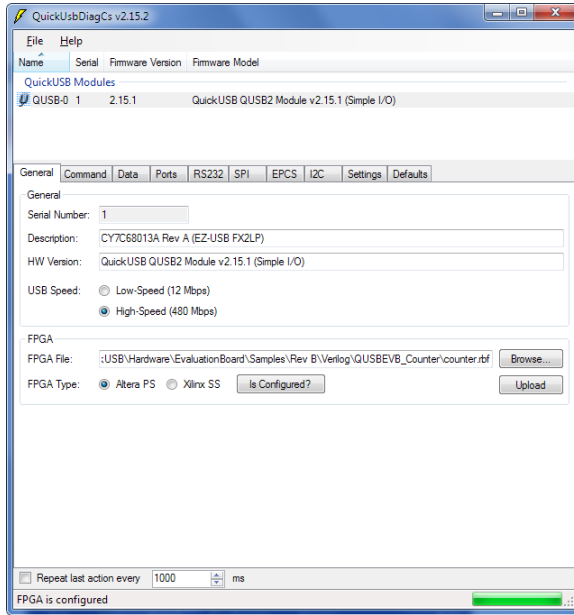

Figure 3 – QuickUSB Diagnostics “General” Tab
- a. Navigate to the “General” tab of the QuickUSB Diagnostics application (see Figure 3)